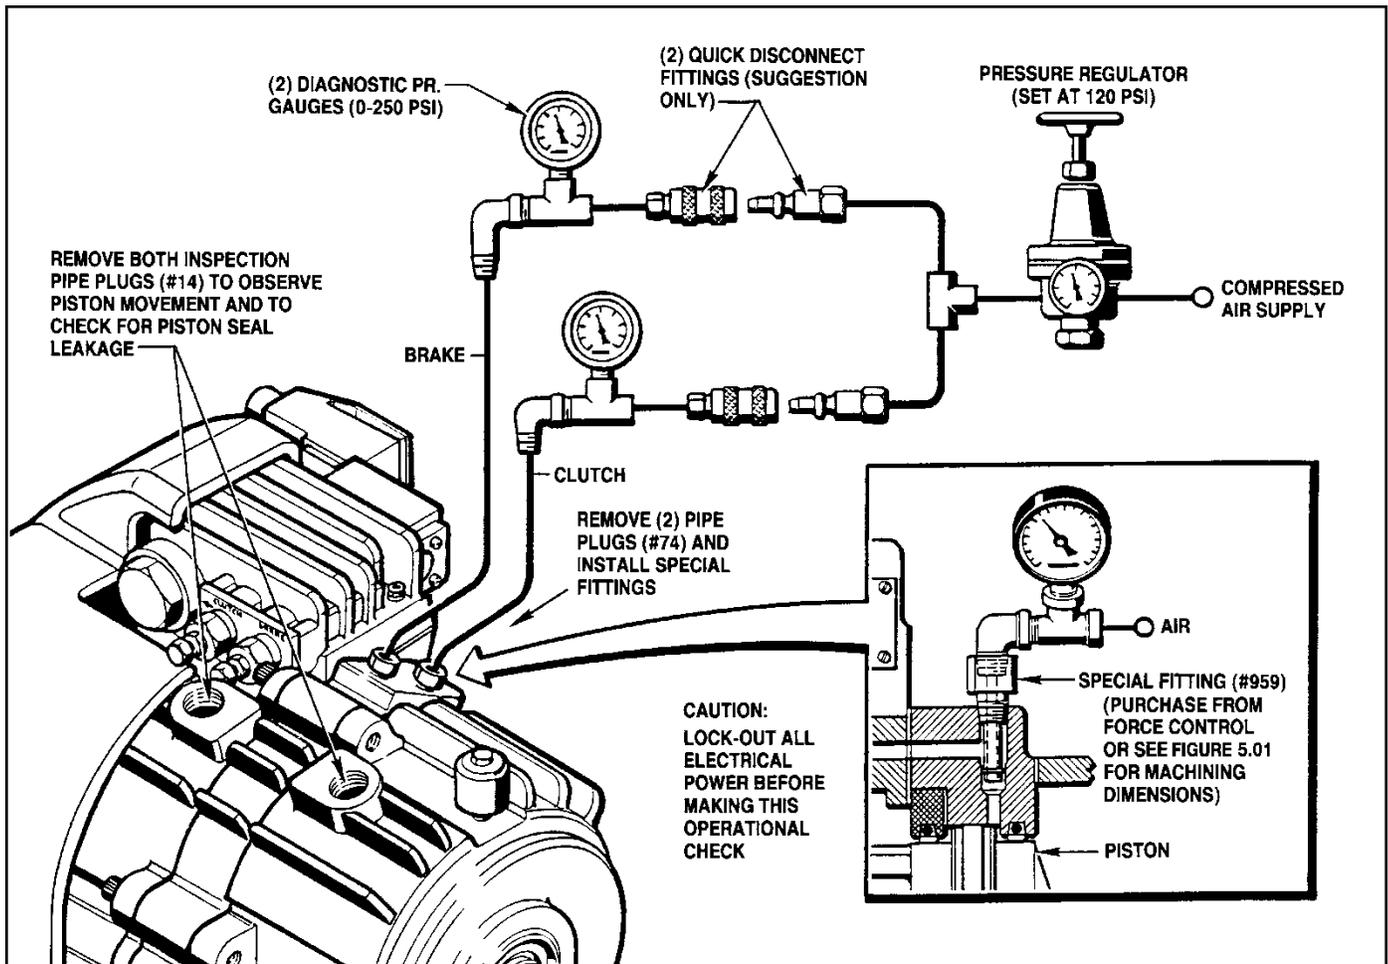

Figure 5.02 - Pneumatic Set-Up For Operations Check
1. Remove the (2) 1/8" NPT Pipe Plugs (#74) from the Piston Housing. After lubricating the O-Ring (#961) install the two Special Air Connection Fittings (#959) into the Piston Housing.
2. Install the 120 PSI air supply to the unit as shown in *Figure 5.02*. (Example only)